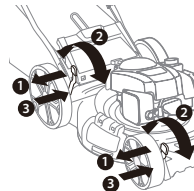

Fig. 8
2. To change the cutting height, squeeze the height adjuster lever toward the wheel (1, Fig.8).
3. Move the lever and wheel up or down to the desired position (2, Fig.8), release the lever to lock the wheel in position. Be sure the rear wheels and front wheels are at the same height.(3, Fig.8)